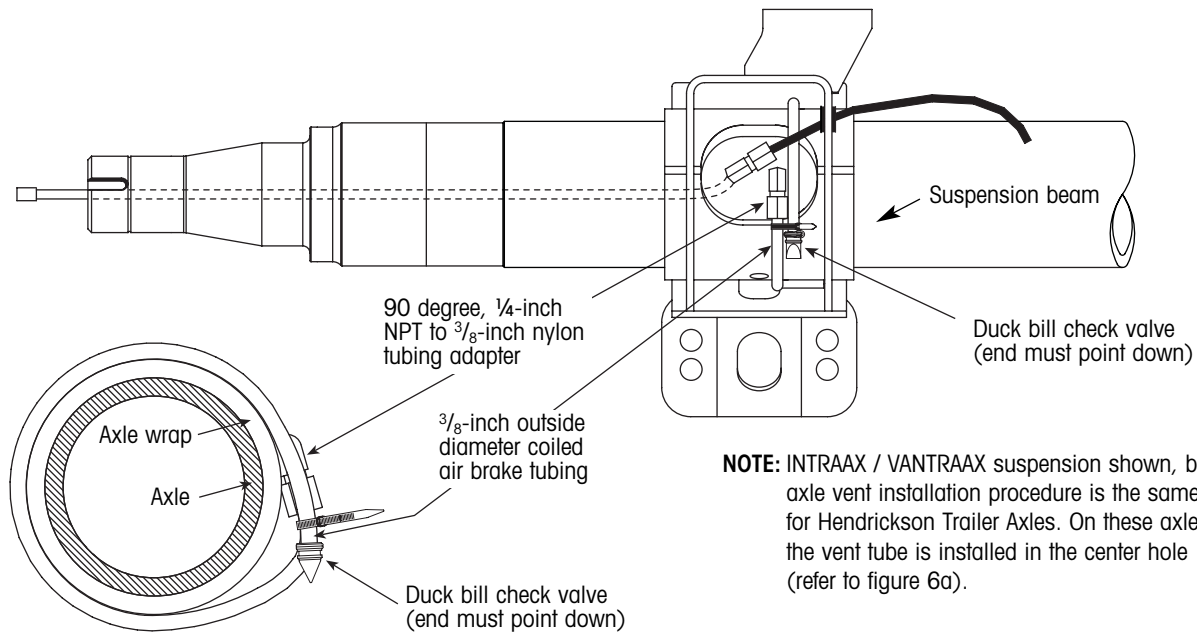

Figure 18. Typical axle vent installation
1. Install a 90 degree, 1/4-inch NPT male to 3/8-inch nylon tubing adapter in the remaining 1/4-inch threaded hole in the axle tube (figure 18).
2. Loop the 3/8-inch outside diameter coiled tubing around the axle. On INTRAAX / VANTRAAX suspensions, loop the coiled tubing around the axle inside the suspension beam as shown in figure 18. If not already installed, attach the duck bill check valve to the tubing making sure the end points down to prevent contamination (figure 18). To attach the duck bill check valve, slide the duck bill check valve onto the tubing and secure with the provided clamp. Do not use glue or any other substance that could plug the duck bill valve.